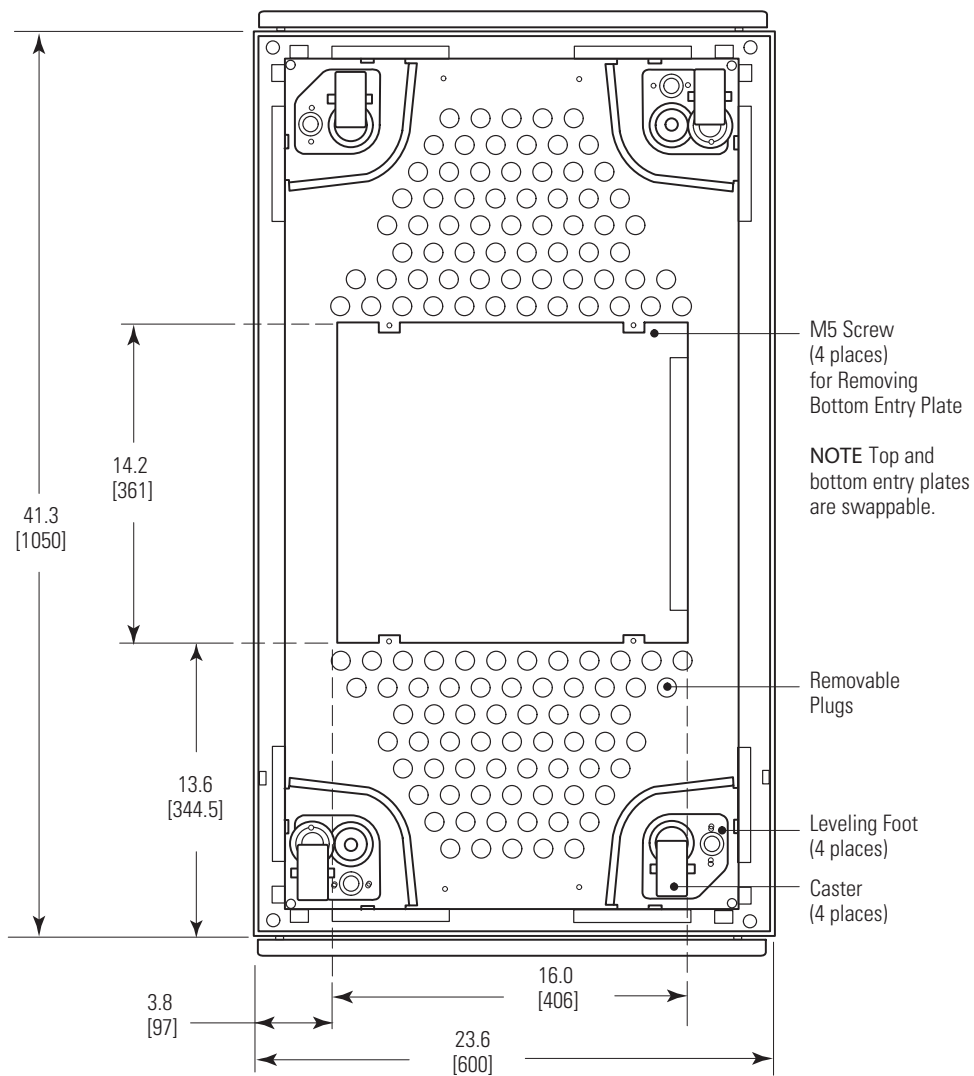

Figure 2. PDR Bottom View
- The top and bottom of the cabinet have swappable entry plates and removable plugs for cable connection. See Figure 2 on page 5.
2. **Bottom entry wiring.** Install a cutout in the floor as needed, using the template shown in Figure 2.